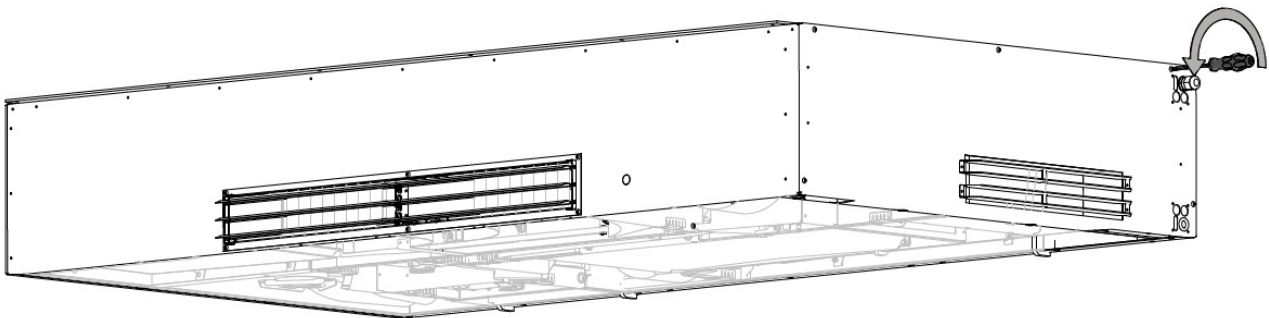

Figure 5: Disassemble the side cover, right-hand side
2. Disassemble the right-hand side cover, see Figure 5. Carefully place the cover on a protective underlay to prevent scratches to the surface.